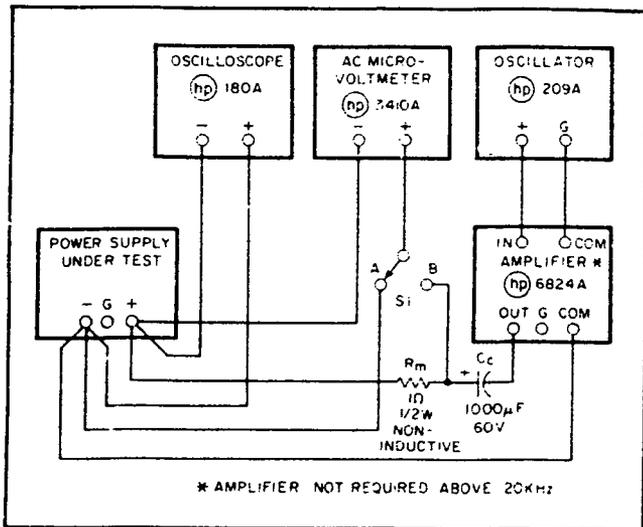

Figure 5-7. Output Impedance Test Setup
5-40 The test setup to be used is shown in Figure 5-7. It is important that the measuring instruments shown in the figure (oscilloscope and microvoltmeter) be connected directly across the power supply output terminals rather than at other points in the test setup. In addition, each instrument should be connected to the power supply with its own pair of leads in order to minimize mutual coupling effects. Monitoring resistor  $R_M$  (1 ohm,  $\frac{1}{2}$  watt) must be a non-inductive resistor. The value shown for coupling capacitor  $C_C$  is the minimum required value; larger values of capacitance can be used without difficulty.
- Connect test setup shown in Figure 5-7.